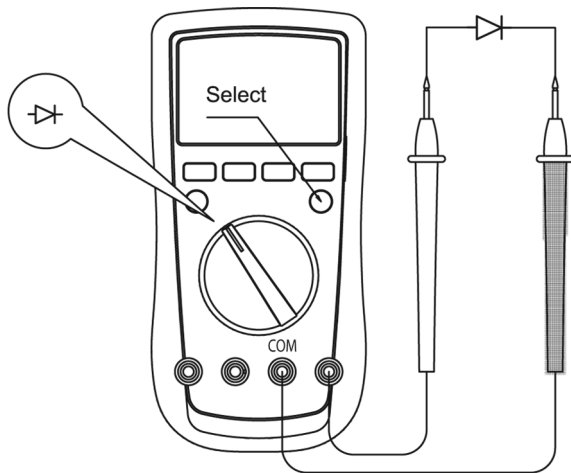

figure 6
E. Testing Diodes (See figure 6)